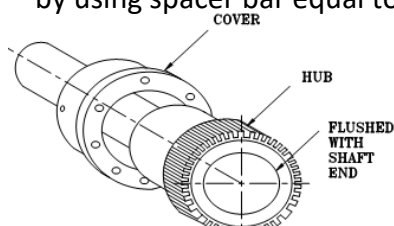

Fig. 3.1
- Slide cover with mounting seal(01) on the shaft before mounting the hub.
- Mount the hubs on their respective shafts flushed with the faces of hubs in fig 3.1. Check half cover are place correctly on shafts.